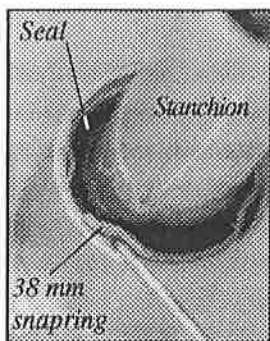

Fig. 12
18. Remove the 38 mm snapping from above the seal (Fig. 12).